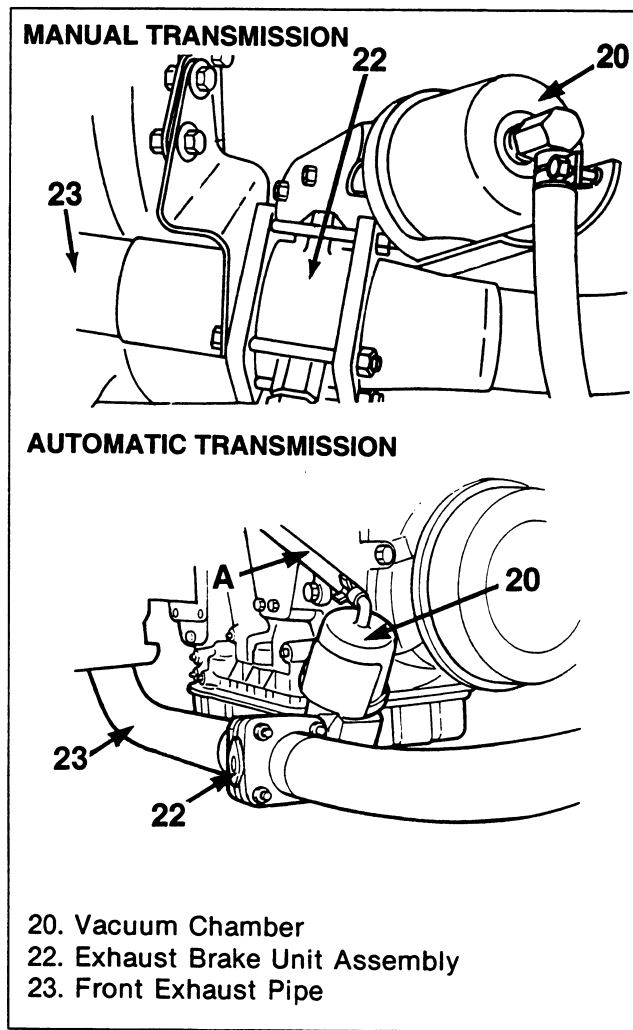

Figure 9. Exhaust Brake Installed
- 25. Exhaust brake unit assembly (22) (figure 9).
25. Front exhaust pipe (23) and exhaust brake unit assembly (22) (figures 9 and 10).
26. Charge air cooler assembly (12) to the radiator.